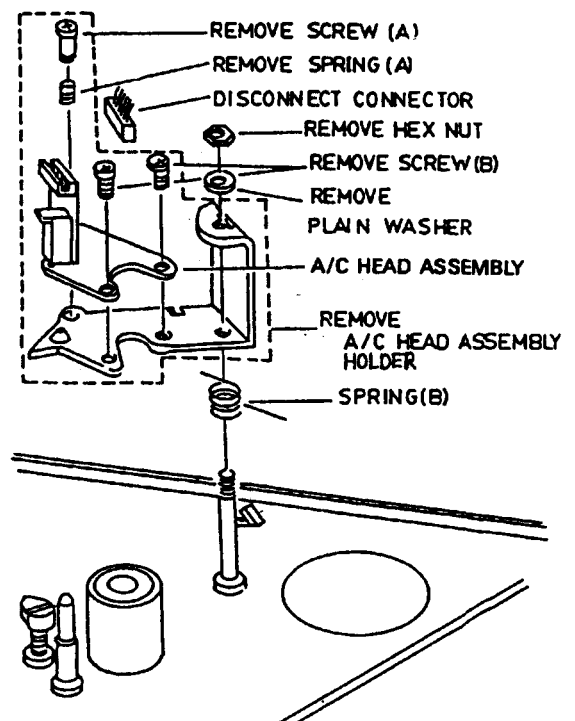

Fig.28
3. Remove the brake sub (L) assembly. (See Fig. 28)